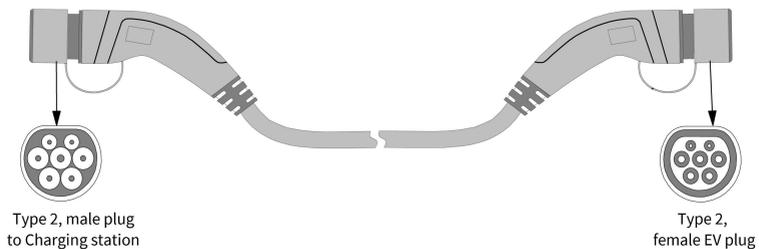

Fig. 3-4 Dual-connector charging cable
- Sunnic Case B series can charge an EV with a Type 2 vehicle inlet. Users should extra purchase a dual-connector charging cable (shown as Fig. 3-4) , according to the vehicle charging inlet of their EV. One connector of the charging cable must be a Type 2 male plug, and another is a Type 2 female plug to EV.